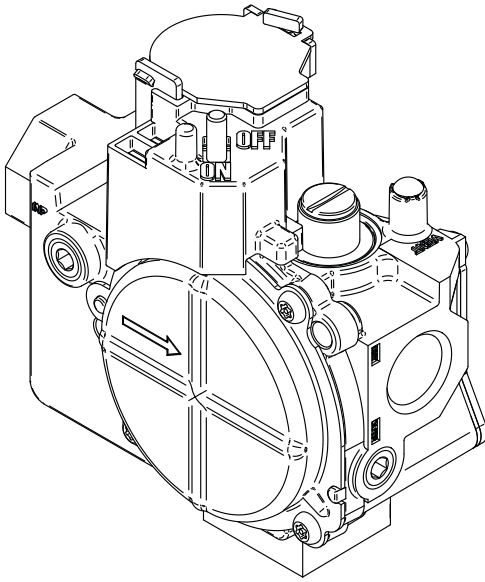

Fig. 40 – Gas Control Valve
- Remove manifold pressure tap plug from gas valve. (See Fig. 40.)